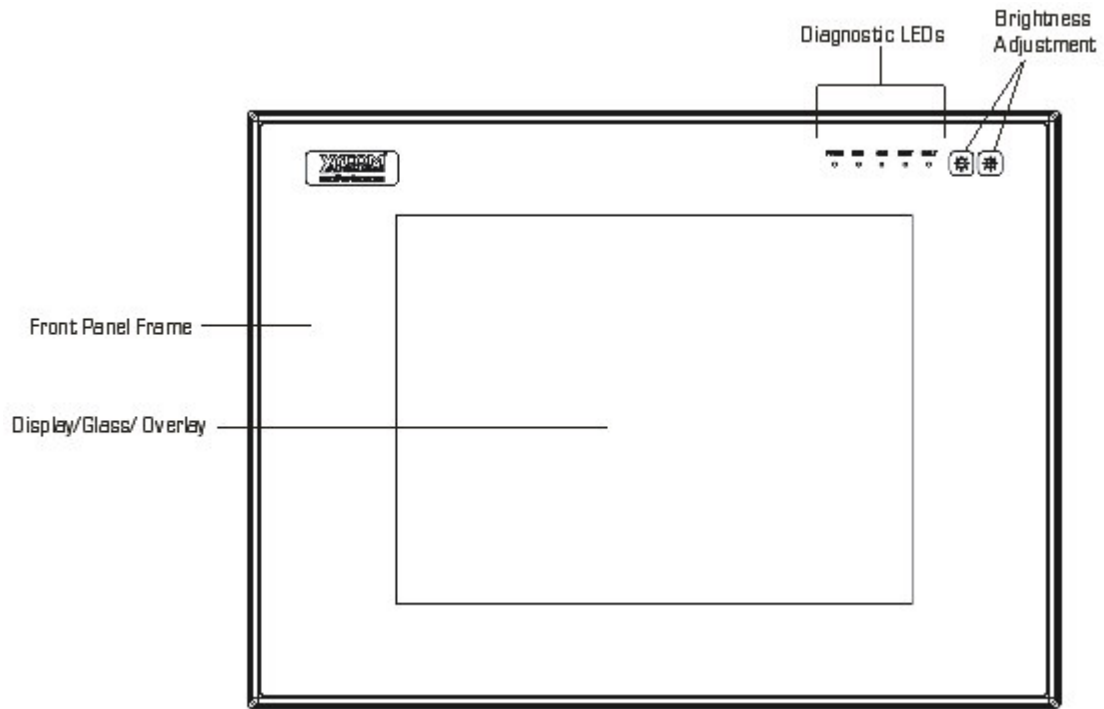
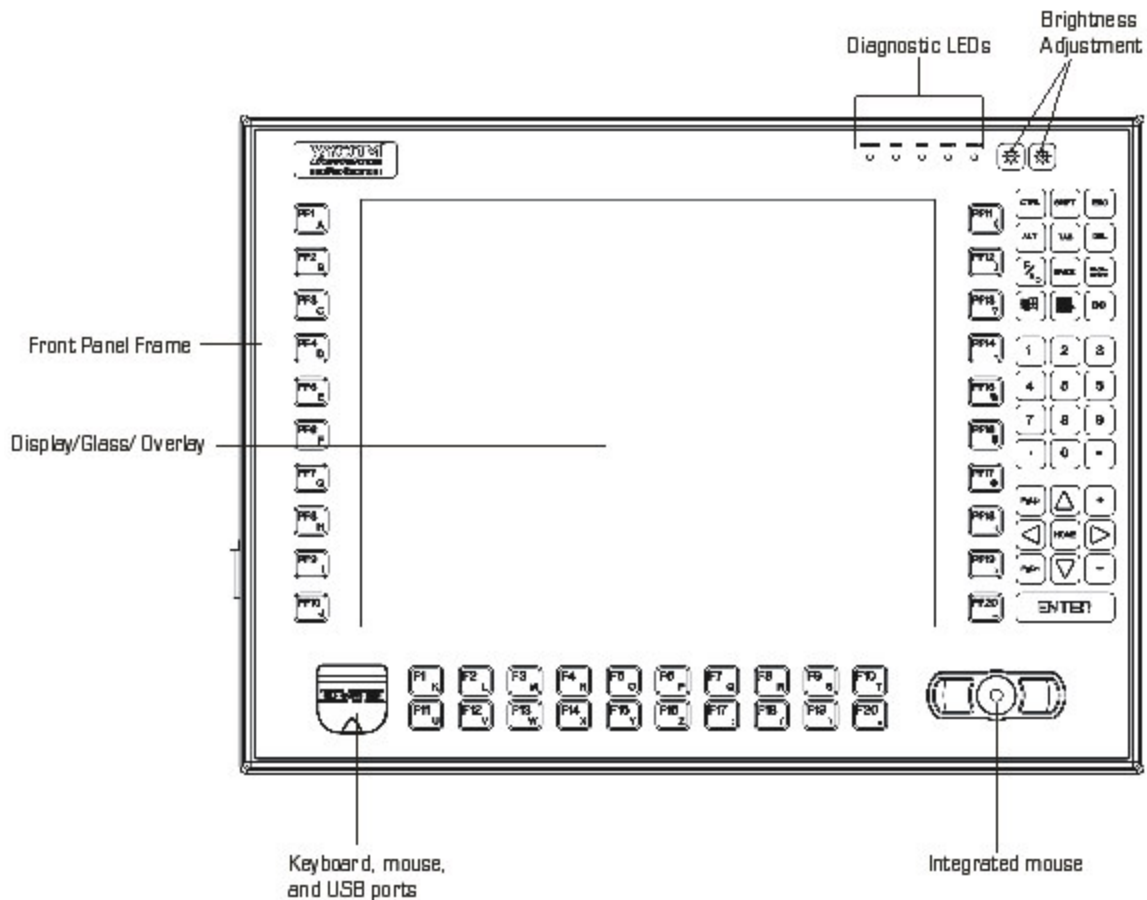

Figure 1-1. 3715T Front Panel
Figure 1-2. 3715KPM(T) Front Panel
Figure 1-1 shows the 3715T front panel, and Table 2-1 outlines the features of this model. Figure 1-2 shows the 3712KPM(T) and 3715KPM(T) front panel, and Table 1-2 outlines the features of these models.